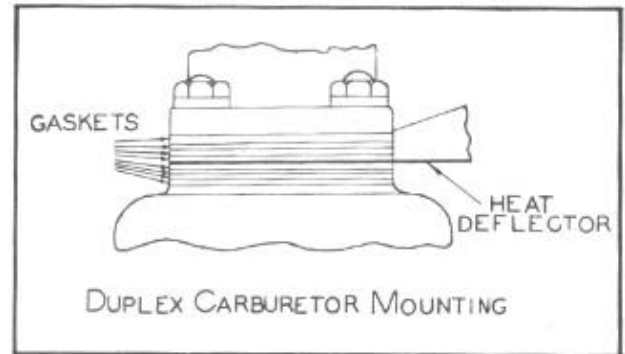

FIGURE 82
**NOTE: Place four gaskets on each side of heat deflector as shown in Figure 82**